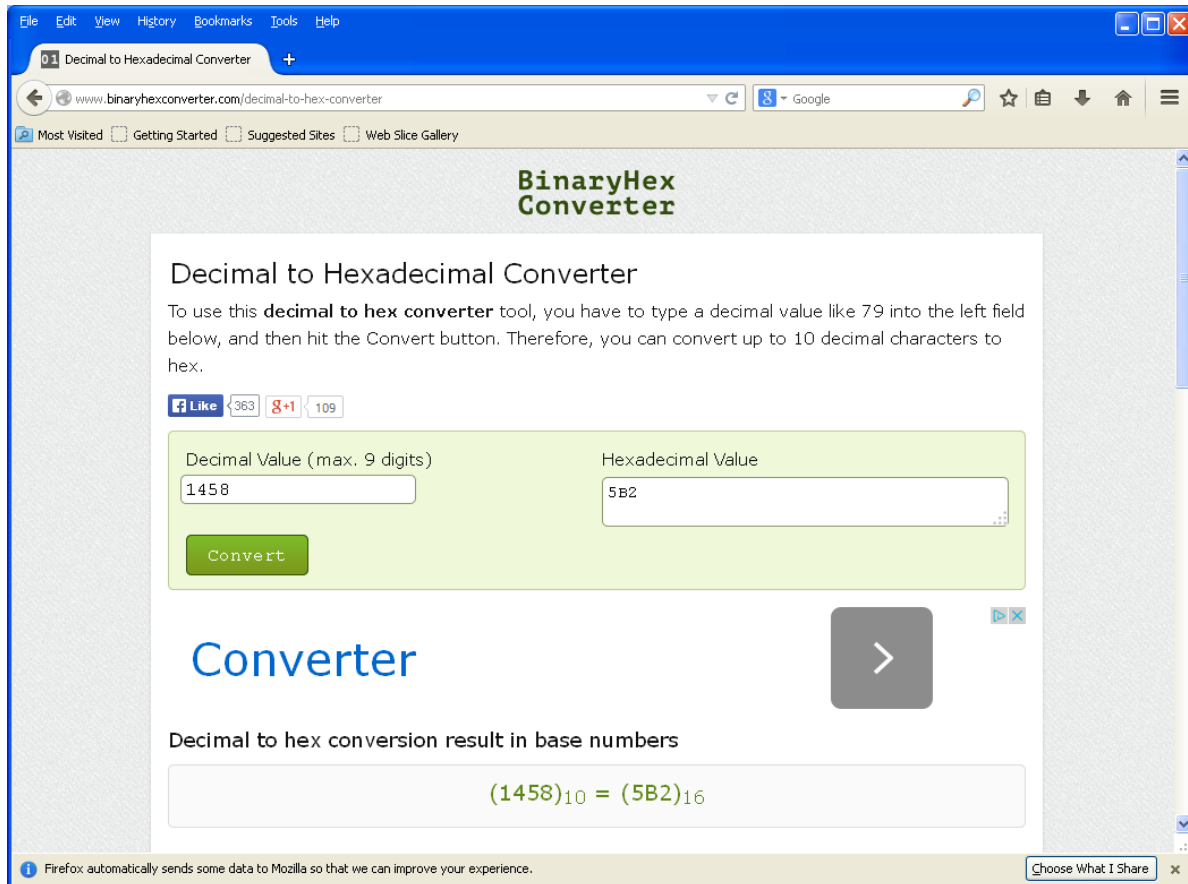

FIGURE 6-19. Web-based decimal to hexadecimal converter
2. Remove the CPU module and note the serial number. Convert the serial number from decimal to hexadecimal (base 16). Web-based converters are available. FIGURE 6-19 shows an example, converting serial number 1458 to its representation in hexadecimal, 5B2.
7. Enter **1** (Ethernet Address). At the prompt, enter **0x** followed by a four-digit hexadecimal value. If the serial number in hex is less than four digits, use leading zeros to create a four digit hex number. In the example shown in FIGURE 6-19, the serial number entered would be 0x05b2.